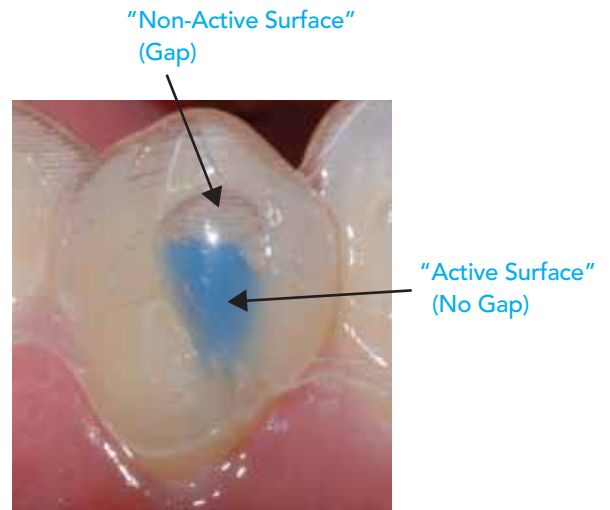
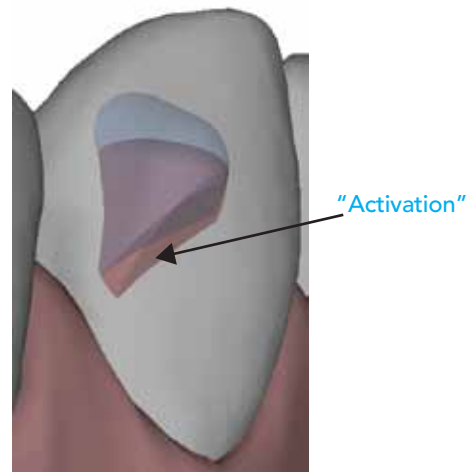

Fig. 1 "Active Surface" of Optimized Attachment
Fig. 2 "Activation" of Optimized Attachment
For better results, dispense the composite onto a dental composite spatula instrument (figure 1), then transfer the composite into the attachment well of the template and remove excess. (figure 2)
1. It is not recommended to use the aligner to produce Optimized Attachments. This is because Optimized Attachments have a different shape than the recess in the aligner (see fig. 1), and they have "Activation" (see fig. 2), meaning that they are positioned by the template on the tooth with an offset relative to the position of the attachment recess in the aligner.